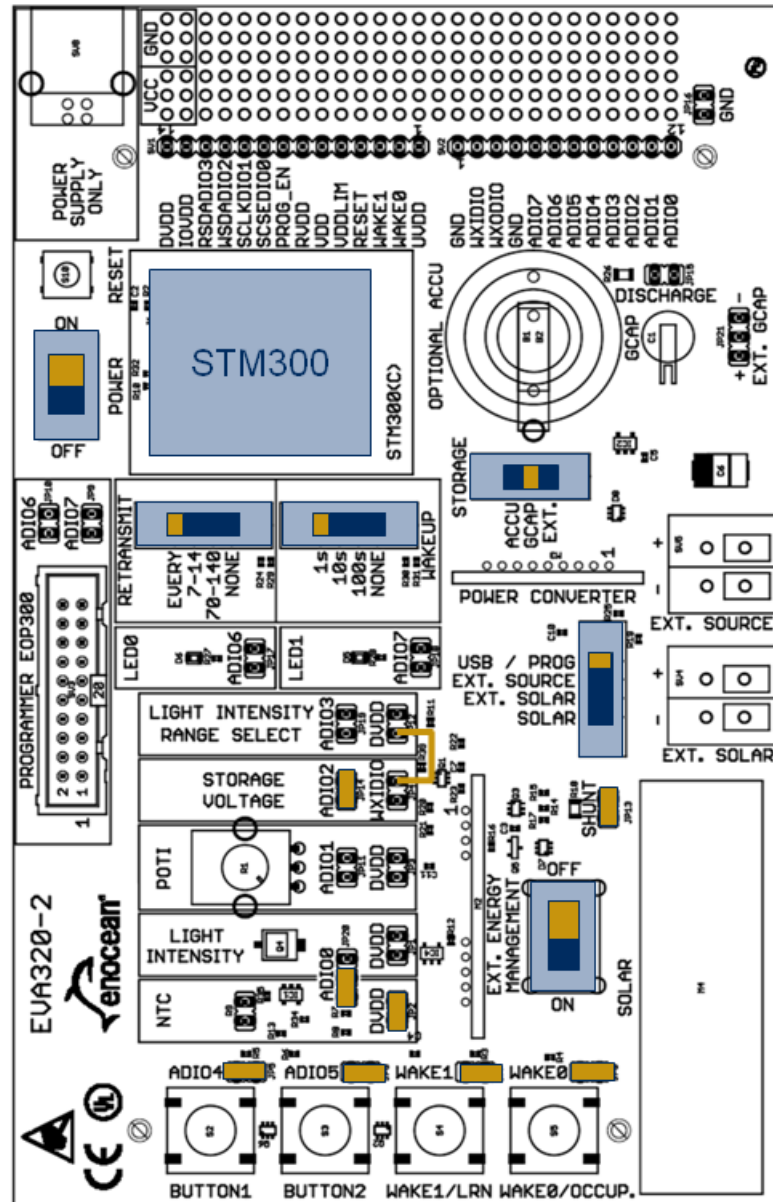

Figure 36 - EVA320 Programming Configuration
1. Ensure EVA320 Jumper and Switch settings as shown in **Figure 36**